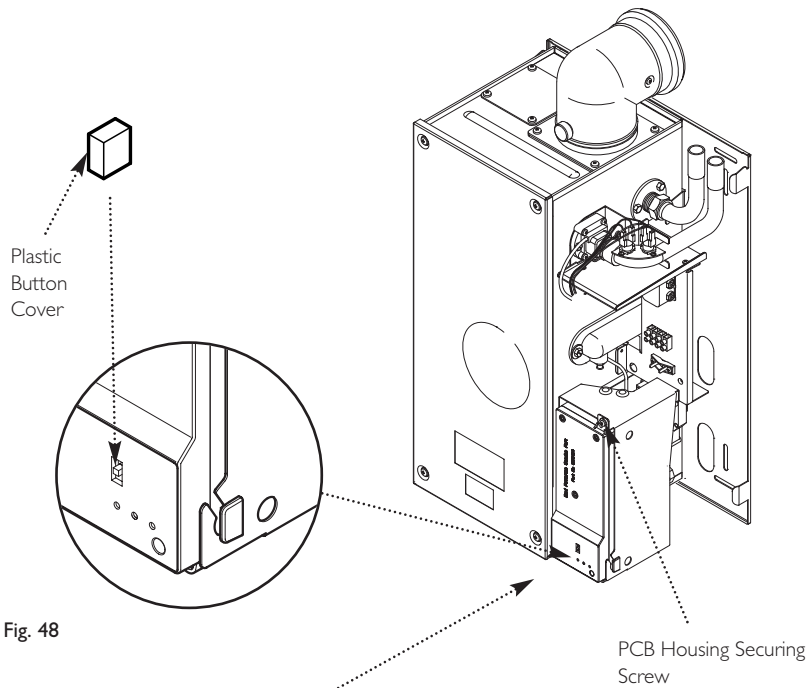

Fig. 48
### 15.4 PCB (Figs. 48 & 49)
1. Remove the plastic button cover. Refit them onto the new PCB (Fig. 48).